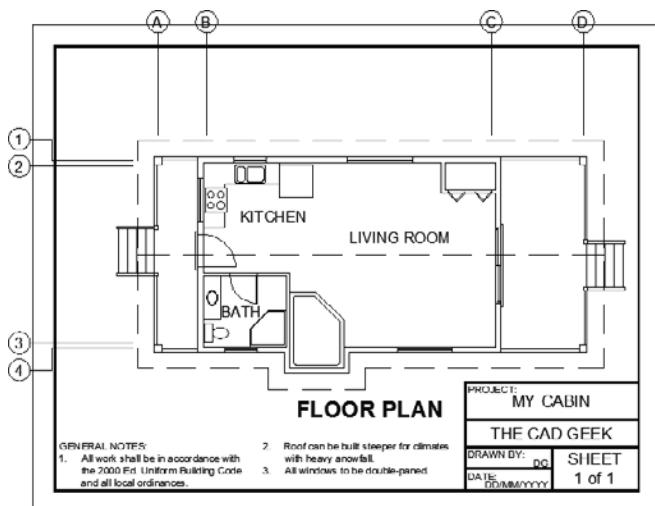

FIGURE 8.61 The results of a font modification
- 19.** Move the text and title block down and to the left until the cabin fits neatly within the upper-border area and the notes are unobstructed (see Figure 8.61).